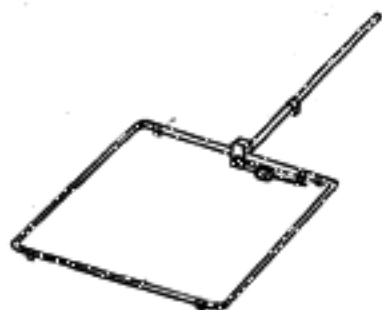

FIGURE 4
- (4) For temporary mounting i.e. out a window follow the assembly procedure in step 1 above. Assemble the two sections of the mast mounting boom, and insert the $\frac{5}{8}$ " tubing into the machined block, figure 4.